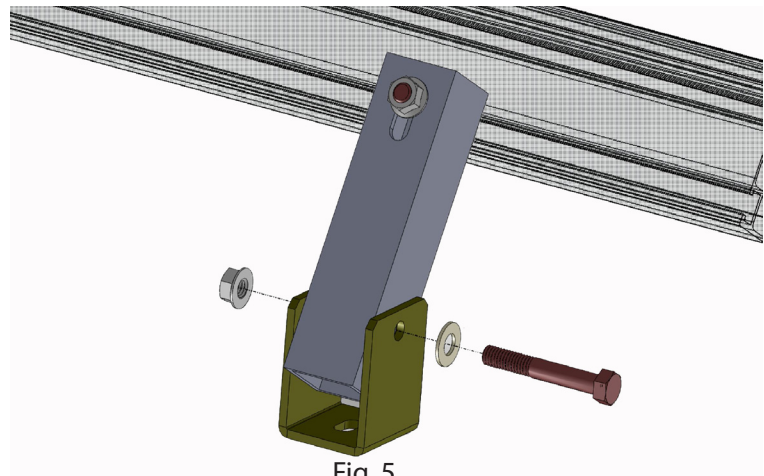

Fig. 5
4. Attach the Short Leg to the U-foot by aligning the hole in U-foot with the slot in Short Leg and inserting a 3/8-16 x 2.5" hex head bolt and washer. Loosely attach 3/8" flange nut as shown in Figure 5.